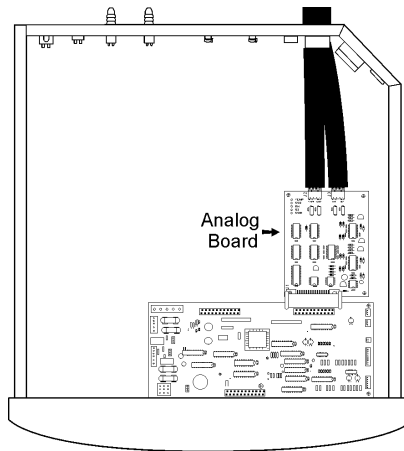

Figure 6-6
4. Each system monitored (Temp, CO₂, O₂, RH) requires two conductors. Feed the wire through the analog wiring inlet on the back of the drawer. See Figure 6-6.